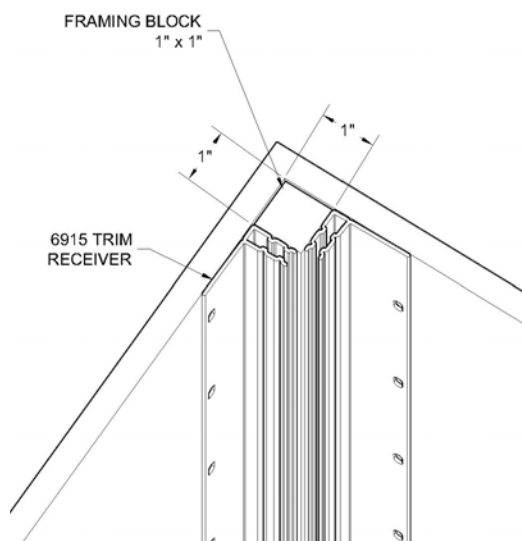

Fig. 1
3. To achieve a uniform inside corner, install a 1" x 1" block along the height of the wall (Fig. 1).